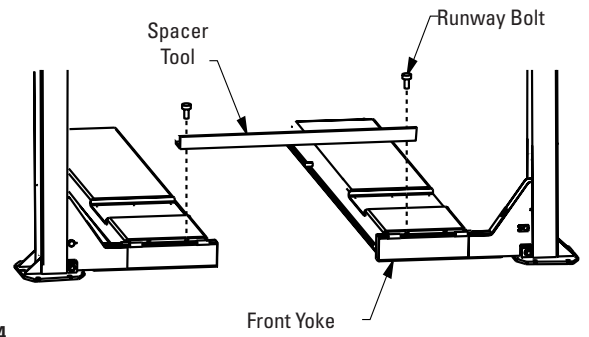

Fig. 14
- A. Square up runways. Install spacer bar and bolts, to help maintain the runway spacing, Fig. 14. Adjust runways until diagonals are equal. Check lift location in the bay. Check dimensions side-to-side, equal to within 1/8" (3mm), Fig. 15.